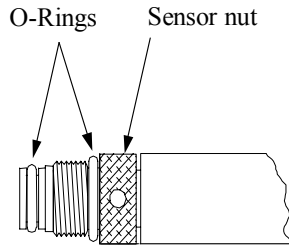

Figure 3.4 O-Ring Lubrication
4. Apply a thin coat of o-ring lubricant (supplied in the YSI 5511 maintenance kit) to the o-rings on the connector side of the sensor (see Figure 3.4 O-Ring Lubrication).